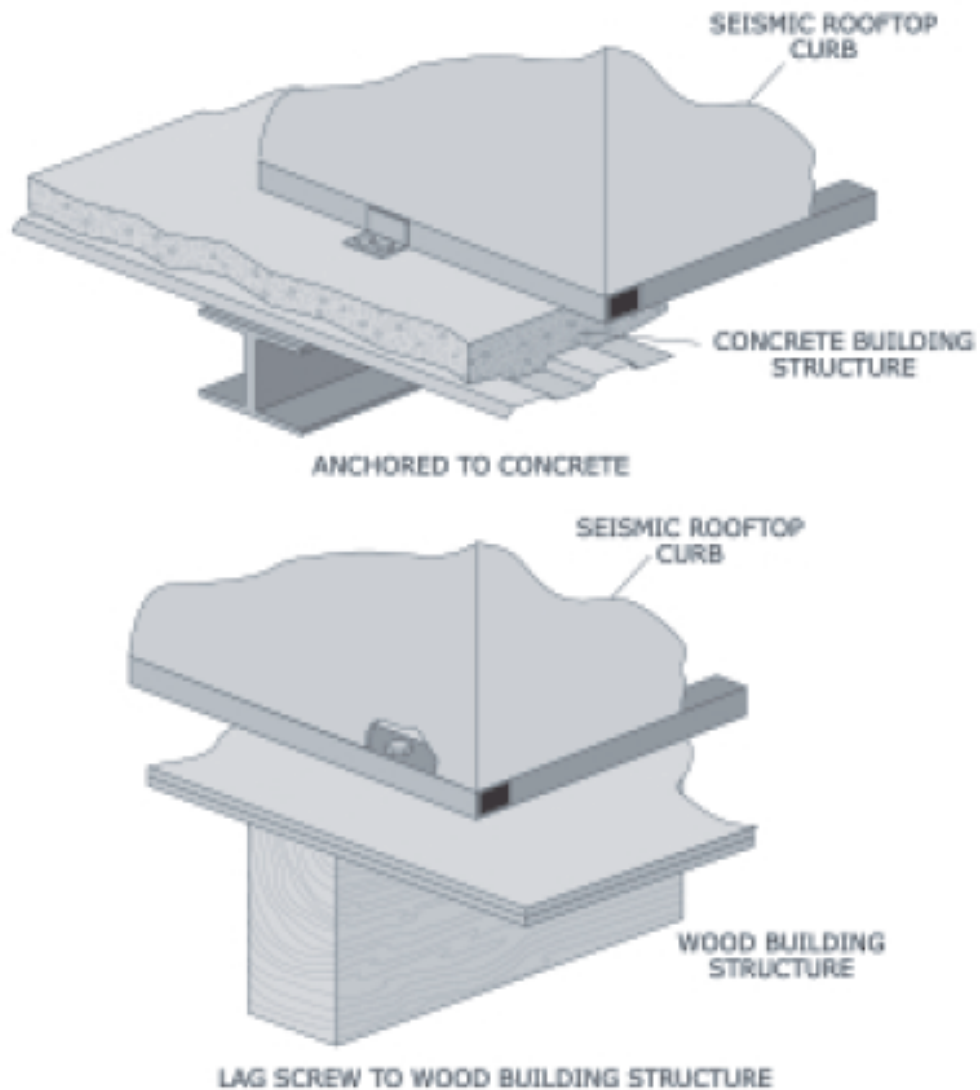

Figure 87: Pre-manufactured curb attached to roof.
- Directly to the roof, see Figure 87 (page 52).